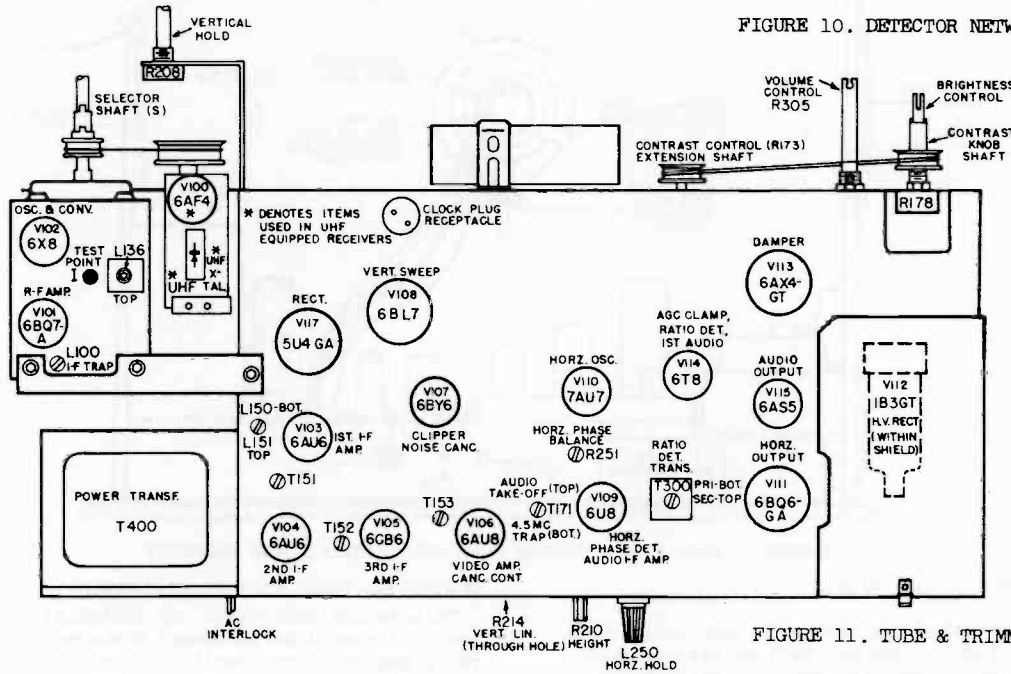

FIGURE 11. TUBE & TRIMMER LOCATION
The alignment of the I-F system involves the adjustment of 1 trap and 5 pass-band tank circuits. Allow at least 15 minutes warm-up for the receiver and test equipment before proceeding. Follow the usual precautions regarding equipment termination and cable dress. Some tuning cores will apparently go through two peaks. In all cases, the cores should be tuned to the first peak starting from the "out" position. Adjustment locations are indicated in Figure 11.
1. Turn L250 horizontal hold control counter-clockwise so that picture is out of sync by 3 bars. Using VTVM, set R251 on top of chassis, Figure 11, so that voltage at Test Point VI reads - .5 volt. (Maintain 8 bar condition by additional adjustment of L250).